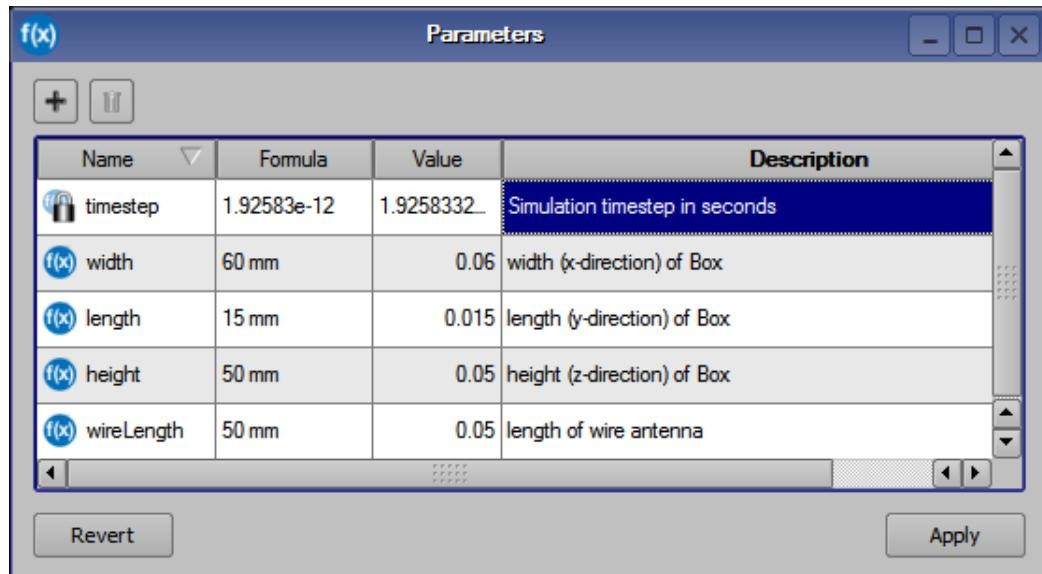

Figure 6.2: Defining parameterized values
- Add parameters named "length", "height", and "wireLength" in the same manner, according to Figure 6.2.